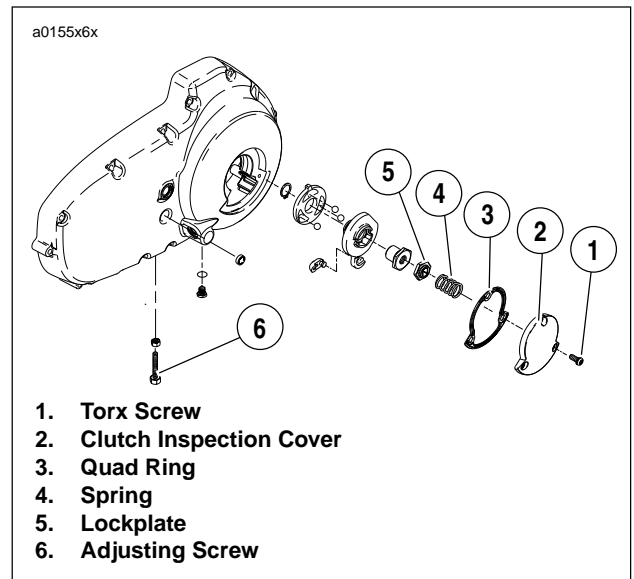

Figure 6-14. Clutch Release Mechanism
4. See Figure 6-14. Remove three TORX screws with washers (1) from clutch inspection cover (2). Remove clutch inspection cover from primary cover.
Quad ring removed from primary cover for illustrative purposes only in Figure 6-14.
9. See Figure 6-14. Install clutch inspection cover and new gasket with three TORX screws with washers. Tighten in a crosswise pattern to 7-9 ft-lbs (9.5-12.2 Nm).